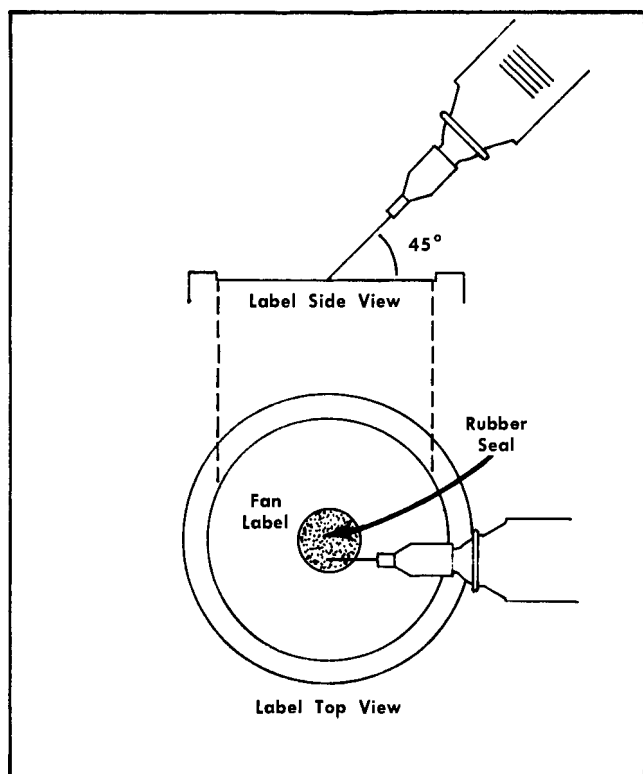

Fig. 5-1. Oiling the fan motor with a hypodermic.
**Fan Oiling.** During periodic servicing, the fan motor should be lubricated with a few drops of light machine oil (Anderol L826 available from Lehigh Company or Rotron Distributors is recommended.) An industrial hypodermic syringe and needle is used to insert the oil through the rubber seal, as shown in Fig. 5-1. With the needle held at a  $45^\circ$  angle, pierce the rubber seal, then insert the needle about  $\frac{1}{4}$  inch and depress the syringe plunger far enough to inject 3 or 4 drops of oil into the bearing. If a syringe and needle cannot be obtained locally, they may be ordered from Tektronix (Tektronix Part Number 003-0282-00 for the syringe; 003-0285-00 for the needle).